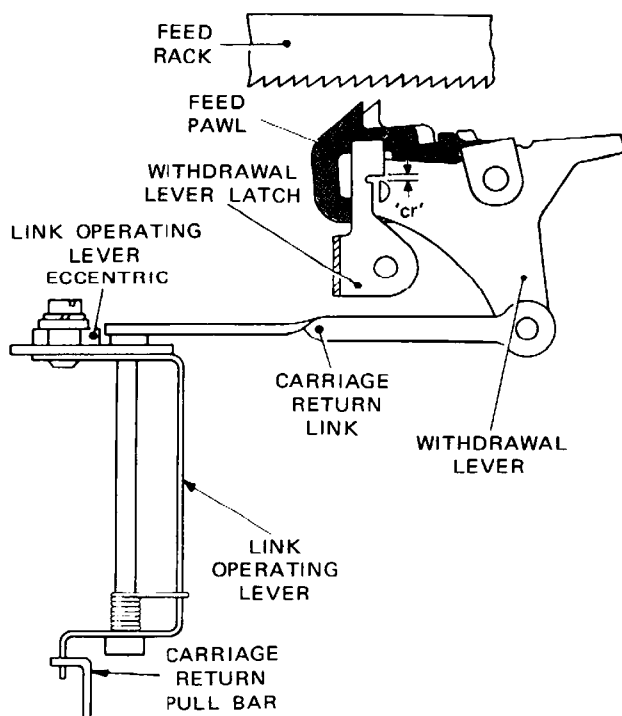

Fig. 4.102 CARRIAGE-RETURN OPERATING LINKAGE
- 112.1 Move the type carriage to the approximate centre of its travel. Set up the carriage-return (SSSMS) combination, release the trip lever latch and turn the machine by hand until the carriage-return pull bar, Fig. 4.102, has fully operated. Check that the inner arm of the withdrawal lever latch has now passed over the pin on the withdrawal lever by 0.003–0.015 inch (dimension 'cr').